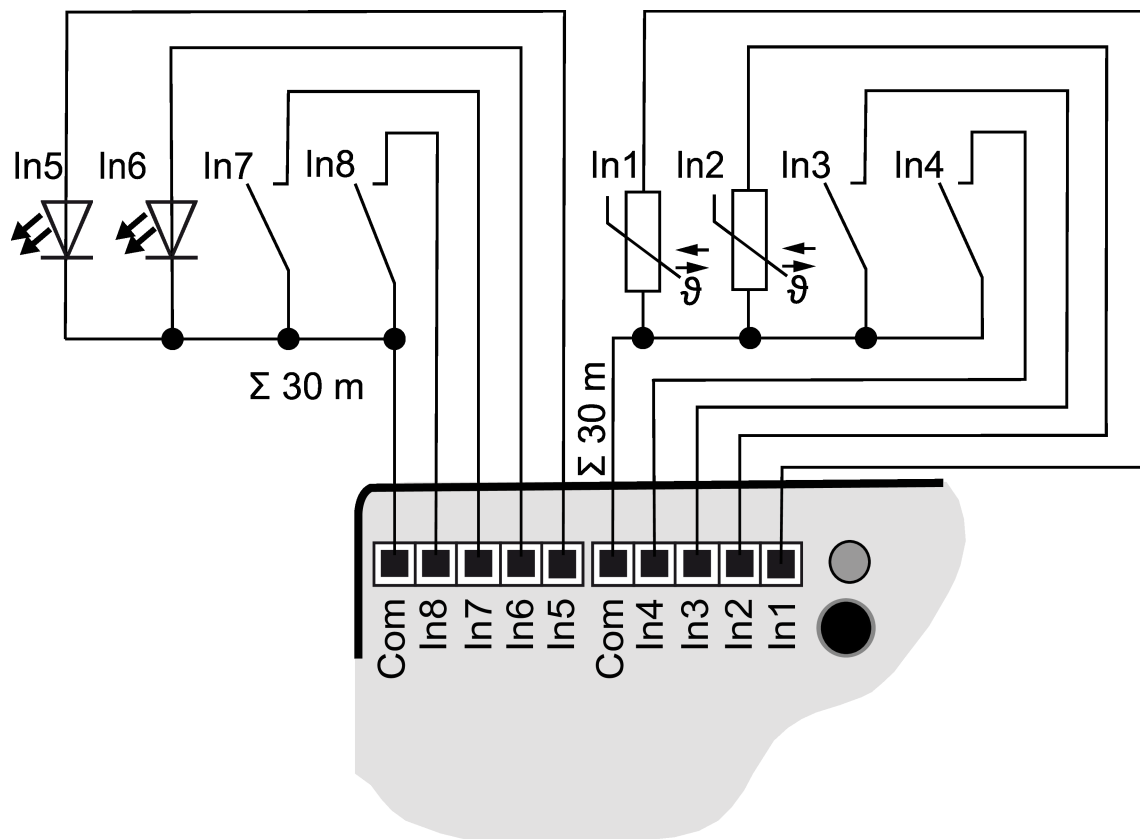

Figure 4: Connection example
- Connect push-buttons, switches, contacts, LED or NTC to enclosed connecting cables (4) according to the connection examples; (see figure 4) to . The connection examples show the use with inputs and outputs.